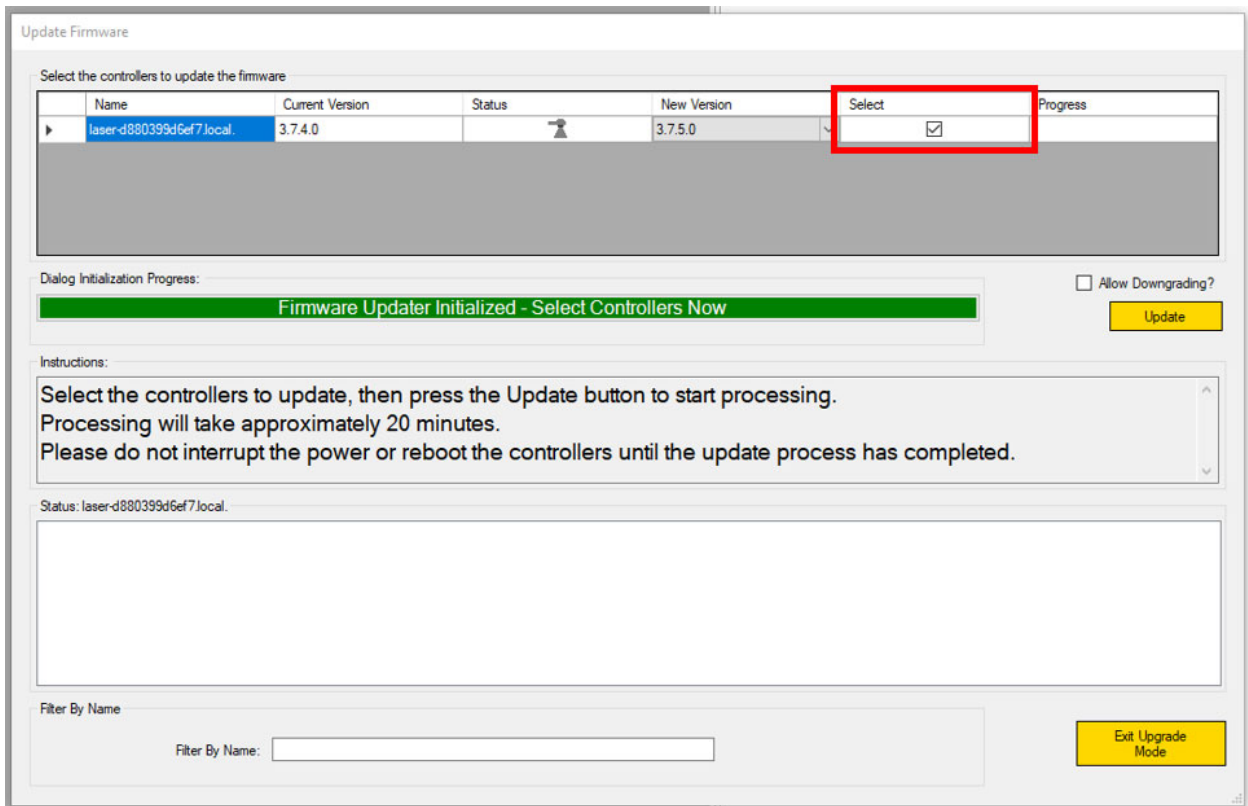

Figure 375: Selecting a Scanner to Update
4. Check the Select box of the scanner that should be upgraded. See Figure 375 (below).